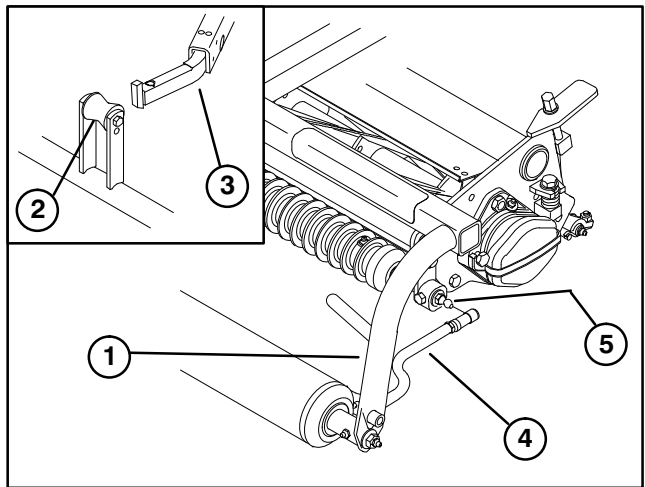

Figure 8
INSTALL CUTTING UNITS (Fig. 8 – 10)
2. Mount a washer and ball stud to each end of front roller on cutting units (Fig. 8).
3. Slide the cutting unit under the pull frame while hooking the lift roller onto lift arm (Fig. 8).